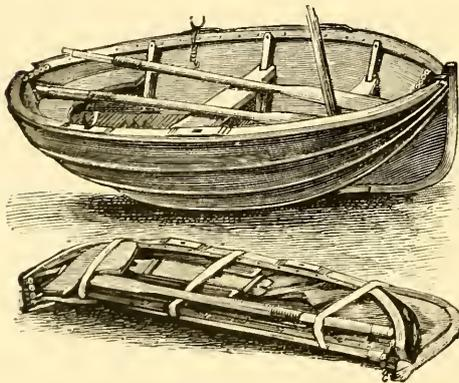

FIG. 261.
*Collapsible Boats.*—The first canvas collapsible boats were invented by the Rev. E. Berthon in 1851. They are made upon longitudinal frames with a double skin of stout canvas. When collapsed the gunwales fold outwards, back flat on the keel. (See Fig. 261.) A 7ft. dinghy which might suit a 5-ton yacht, will have 3ft. beam, and when folded